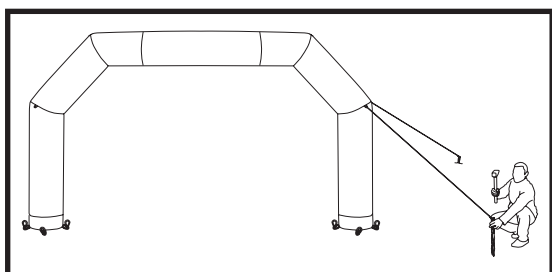

Fig. 7
12. Clip the second end of the rope to the torsion anchor and hammer it into the ground. Stretch the rope (Fig. 7). Repeat for each rope.